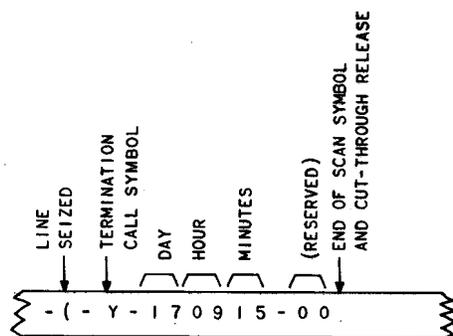

Fig. 6—Format of Call Information Recorded on Paper Tape For Typical Terminating Call
(2) Upon expiration of the timing interval, a programmed sequence of 15 symbols, representing call data is printed as shown in the example of Fig. 6 and Table B. No further recording of information on this call will occur following the end-of-scan symbol.